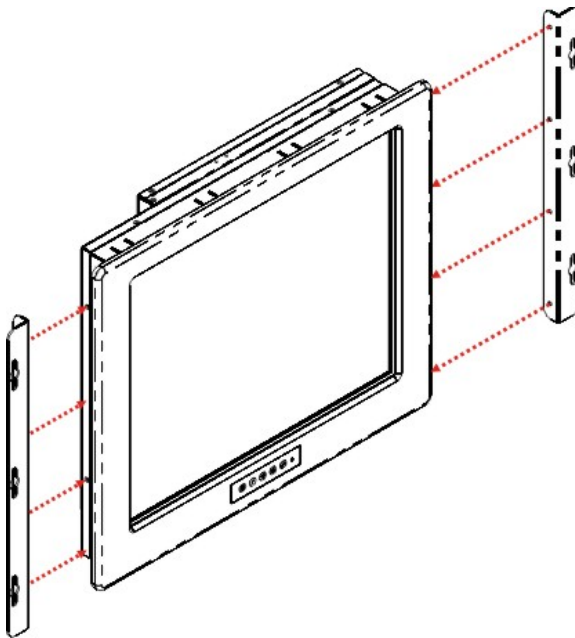

Figure 5-21: Rack Mounting Bracket Installation (DM-190)
Step 2: Secure the rack mounting bracket to two sides of the monitor using the supplied retention screws. Each bracket requires four screws. (See **Figure 5-21**)